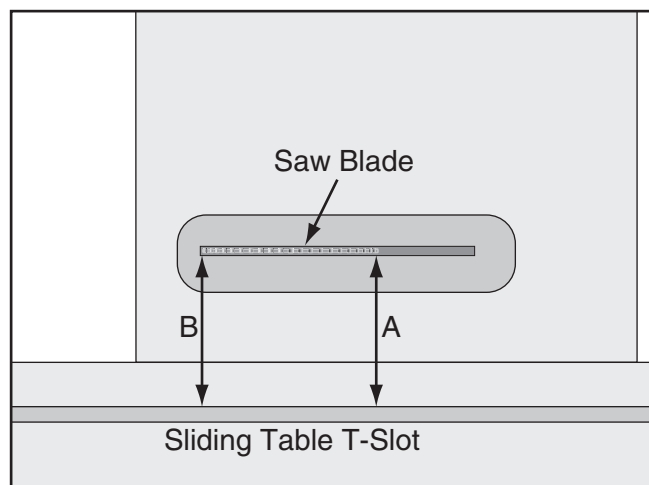

Figure 12. Measuring distance between sliding table T-slot and saw blade.
25. Tilt saw blade to 0°, raise it all the way up, raise left blade guard face, and mark right edge of blade tooth where it is even with table (see **Figure 12**).
26. Measure distance from mark made on blade tooth in **Step 25** to sliding table T-slot closest to saw table. This is distance "A" shown in **Figure 12**.
27. Move sliding table all the way toward rear of saw, rotate blade so mark made on blade tooth in **Step 25** is at location "B" (see **Figure 12**), then take "B" measurement.